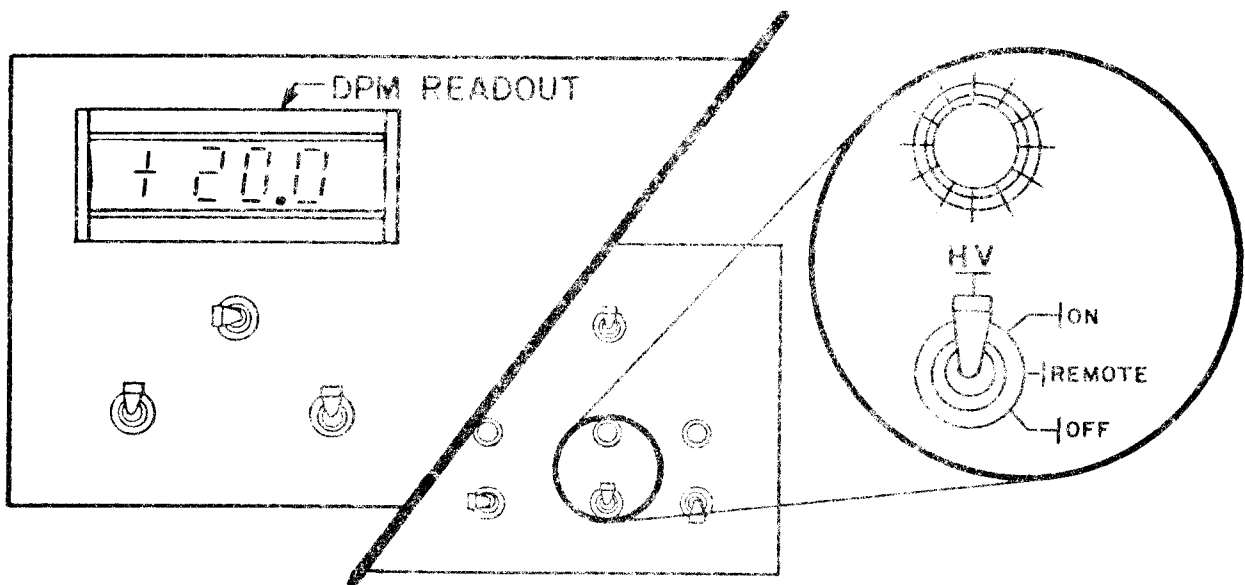

Figure 72. HV Switch to ON
- g. Wait thirty seconds after the POWER switch has been set to ON, then flip the HV switch to ON (see Figure 72). The DPM displays the magnitude of current drawn by the load.